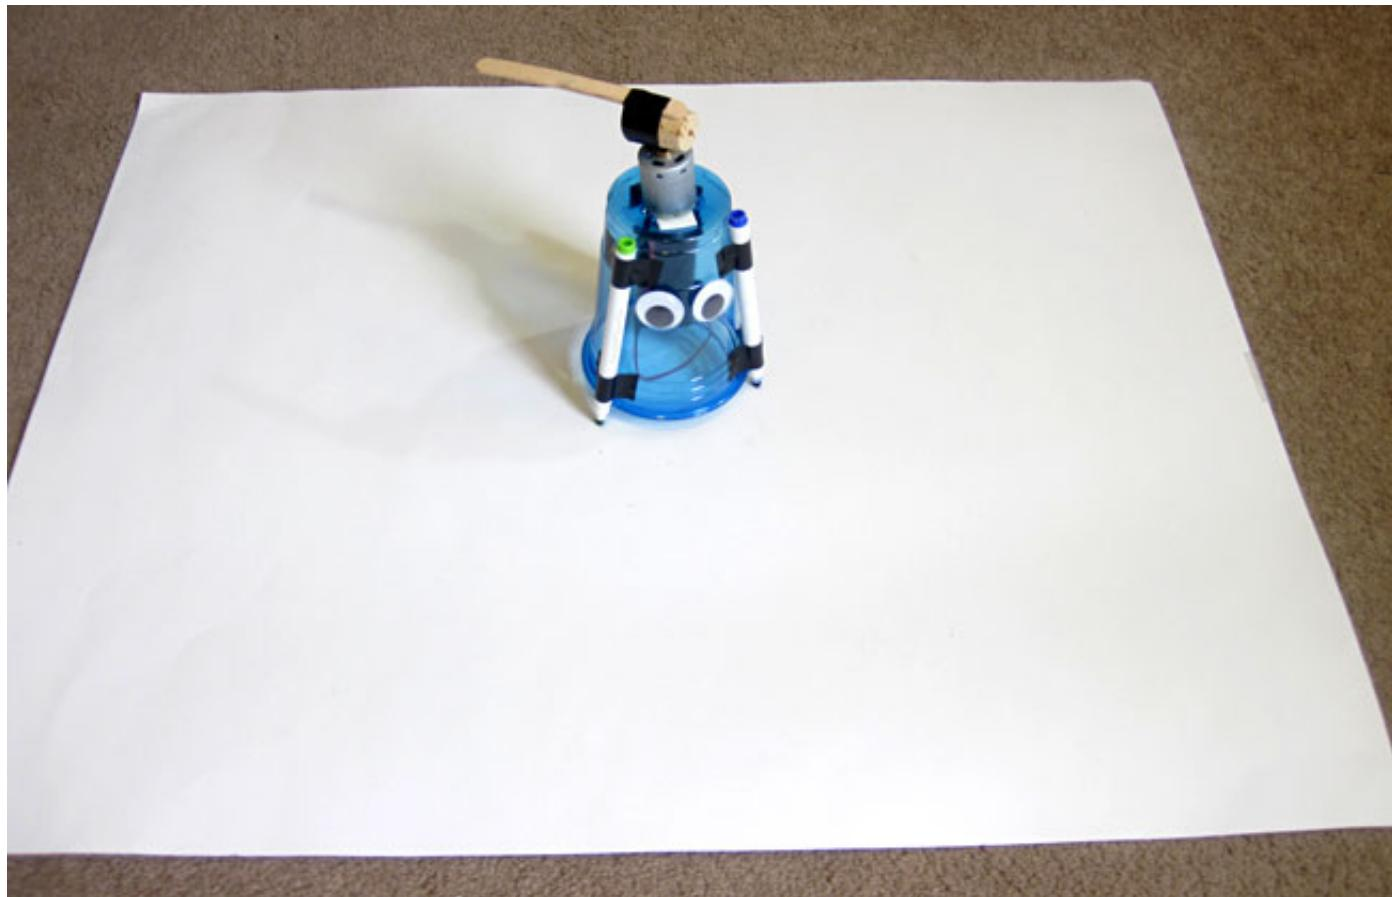

Figure 13. An Art Bot in the center of a posterboard, ready for testing.
3. Take the marker caps off your Art Bot, and place it in the center of the posterboard, as shown in Figure 13, below.